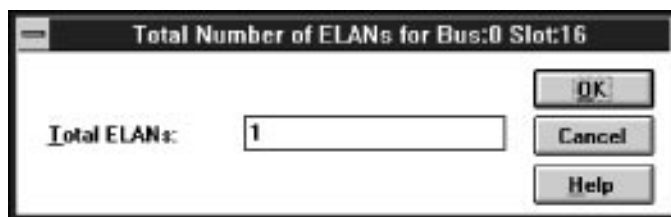

Figure 3-7 Total Number of ELANs Dialog Box
- If you select **Active**, the Total Number of ELANs dialog box appears, as shown in Figure 3-7.